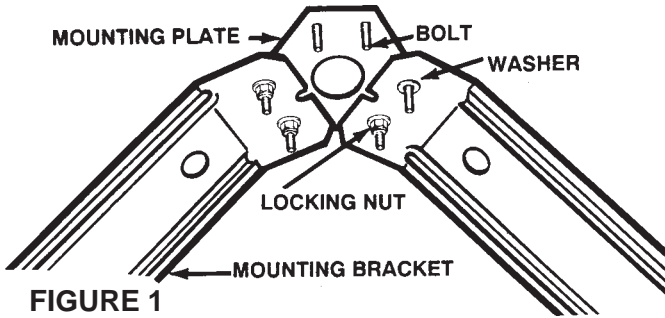

FIGURE 1
STEP 1. Assemble mounting brackets onto mounting plate. Insert 10-32 x 5/8" bolts through mounting plate and mounting brackets. See Figure 1. Attach #10 x 9/16 x 1/6 washers and 10-32 locking nuts. Tighten securely.